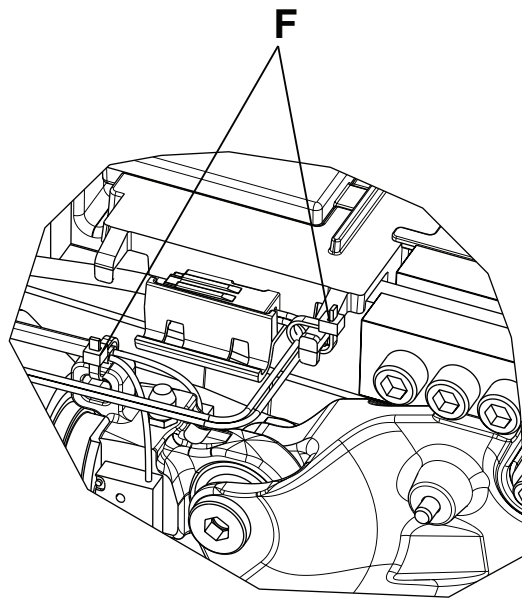

Figure 21 – Cable ties location
9. Using diagonal pliers, cut the cable ties (F) that secure the hydraulic cylinder rod end assembly cable to the plastic cover (Figure 21).